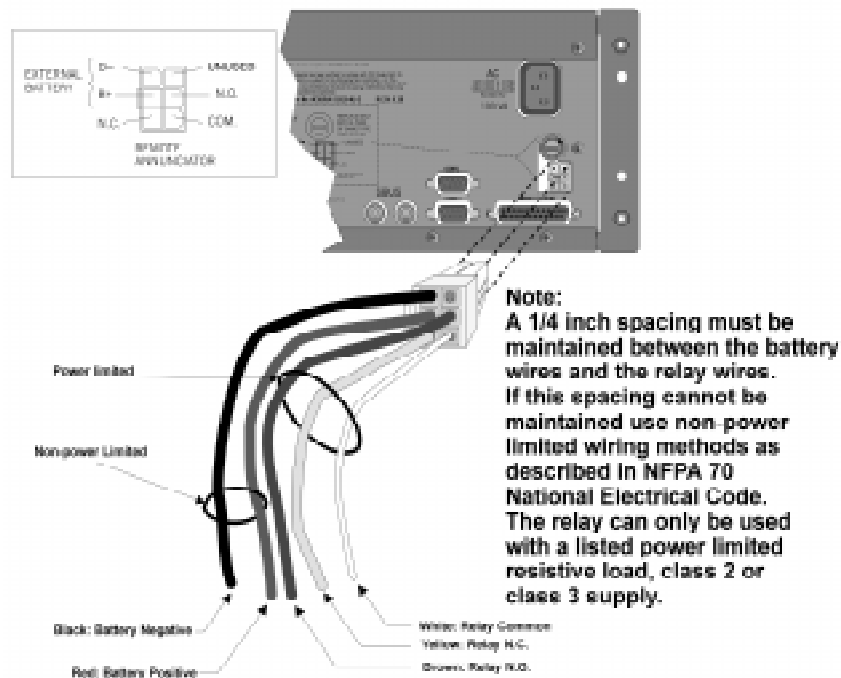

Figure 3-10 9800 Remote Alert Output/Backup Battery Connection
1. Plug the Battery/Relay wiring harness onto the connector on the back of the 9800 receiver. (See Figure 3-10.)